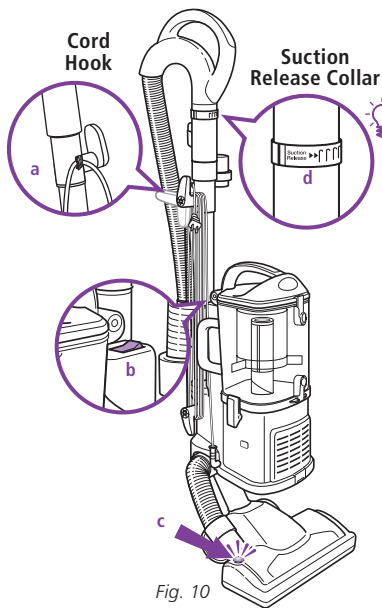

Fig. 10
- 2 Secure the power cord in the cord hook (a). (Fig. 10)
- 3 Press the On/Off switch (b) to the "I" position to vacuum bare floors (straight suction only) or to the "II" position to engage the motorized floor brush (for vacuuming carpets and rugs). (Fig. 10)
! IMPORTANT: The motorized brush indicator light (c) will illuminate green when motorized floor brush is on, or red if there is a blockage or a jam. (Fig. 10) This feature is designed to protect your Lifetime Belt that powers your motorized floor brush. See Checking for Blockages on page 15.
- 5 **Due to the huge suction power of this vacuum, it may become necessary at times to adjust the suction release (d) on the handle. (Fig. 10) If the vacuum seems difficult to push or pull or if it is lifting up area rugs, adjust the suction release by rotating the collar 90° counterclockwise to open the valve. Rotate the collar clockwise to close the valve when you need high suction and for vacuuming floors.**